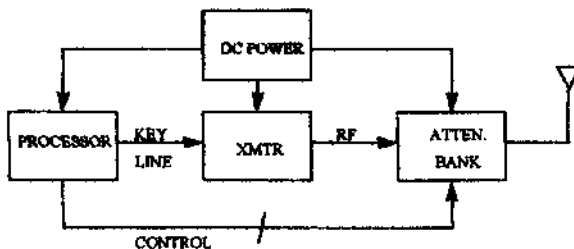

Fig. 1
The major components of the design, as specified in the project requirements, consist of: (1) the Microcontroller, (2) the User Interface, and (3) the Attenuator. Refer to the system diagram in Figure 1.
Referring to "Figure 1: Detailed Block Diagram", our microcontroller needs to control many devices and serve a variety of demanding functions. We need to have 14-or-so output control lines, be able to read 6 input lines, communicate serially to a host PC, generate a side tone and determine a potentiometer setting through an A/D converter. The microcontroller must be easy to program, reprogram, and reprogram again during the development cycle, for us the design team as well as others who may wish to modify the software later on for their own use, per the source code we provide as a starting point.